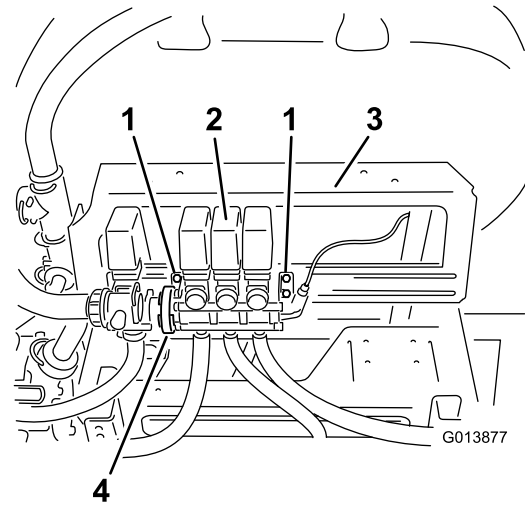

Figure 4
- Loosen, but do not remove, the bolts that secure the boom-valve-assembly to the mounting bracket (Figure 4).
- Loosen the existing worm clamp that secures the agitation valve to the boom-valve-assembly (Figure 4).